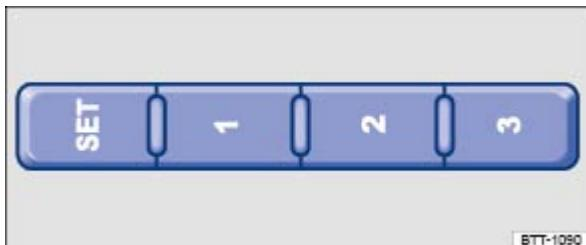

Fig. 84 On the driver seat: Memory buttons.
- Press the **SET** button for longer than a second ⇒ Fig. 84.